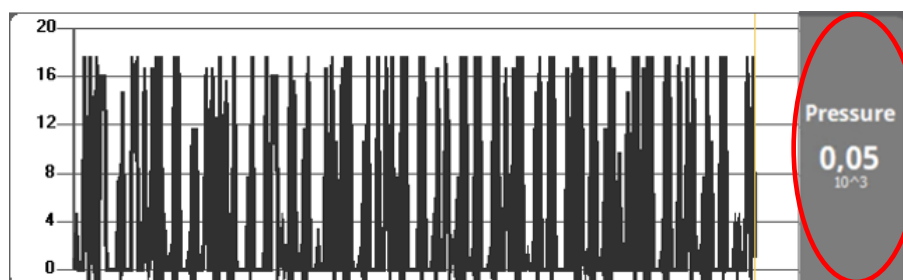

Fig 23
- The infusion circuit pressure (Fig 23).